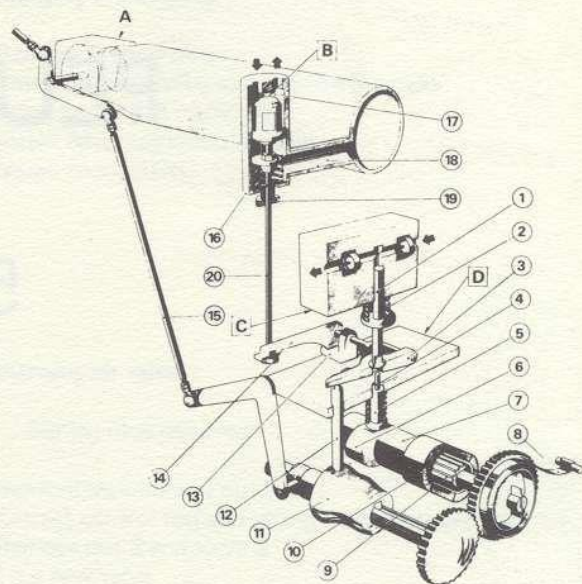

Fig. 1.01 Operating diagram for the fuel injection pump *
The camshaft (7) (Fig. 1.01) rotates at half the speed of the engine and has the same number of cams as the engine has cylinders. The cam (6) acts on the tappet (4), which is maintained in contact with the cam by the action of the spring (5).